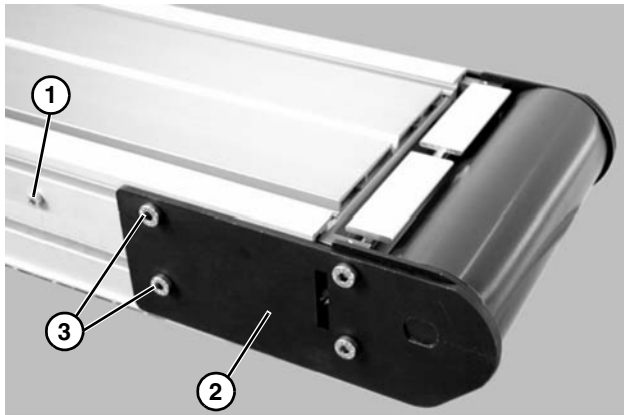
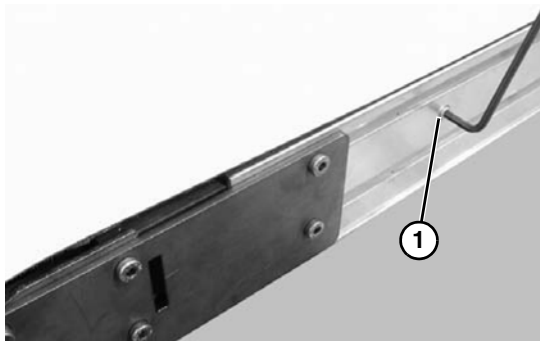

Figure 24
Figure 25
2. On tension end of the conveyor, identified by the pinion locking screw (**Figure 24, item 1**), push in head plate assembly (**Figure 24, item 2**): Loosen the pinion locking screw (**Figure 24, item 1**), adjust the pinion torque screw (**Figure 25, item 1**). On both sides of conveyor, loosen the two tail clamp bolts (**Figure 24, item 3**), and push head plate assembly (**Figure 24, item 2**) inward.